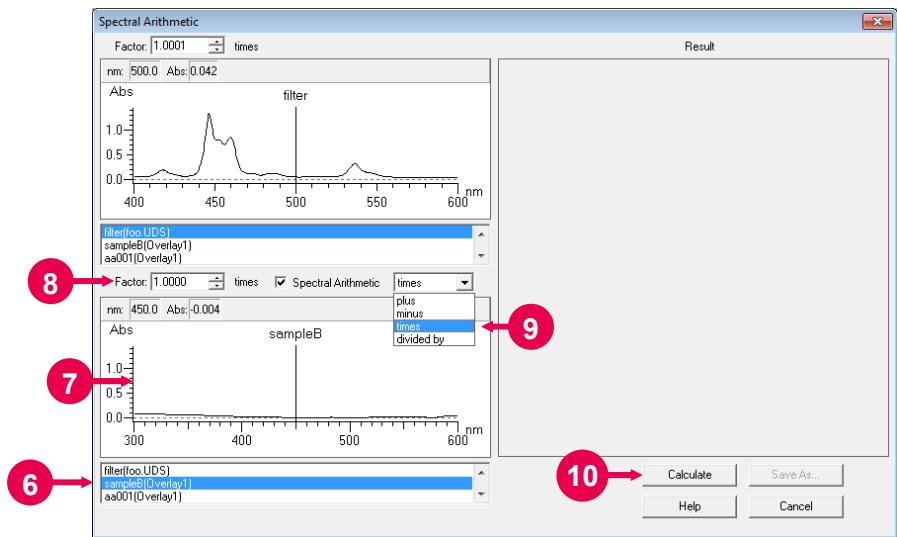

Fig. 5-31
- (6) Another sample name indication area for arithmetic operation between spectra. The sample names for the files opened in the window (file names in parentheses) are listed. From this list, select another file for arithmetic operation (refer to (6) in Fig. 5-31).
- (7) The spectrum selected in step (6) is displayed (refer to (7) in Fig. 5-31).
- (8) Set a factor for the spectrum selected in step (6) (refer to (8) in Fig. 5-31).
- (9) Select a mathematical operator for the two spectra (refer to (9) in Fig. 5-31).
- (10) After setting of a mathematical operator, click the **Calculate** button (refer to (10) in Fig. 5-31).